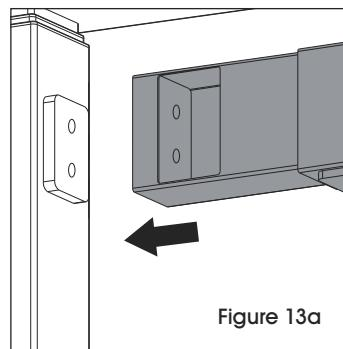

Figure 13a
13. Align opposite end of stringer with side mounting plate. Insert two "F" Allen head bolts through stringer and into side mounting plate. Tighten "F" Allen Head bolts to secure. (See Figures 13a-13b)